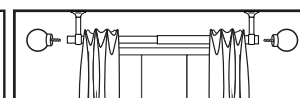
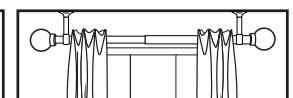

Fig. 4
Fig. 5
3. Place window treatment onto rod (fig. 3). Slide rod into brackets (fig. 4). Add finials to rod (fig. 5).